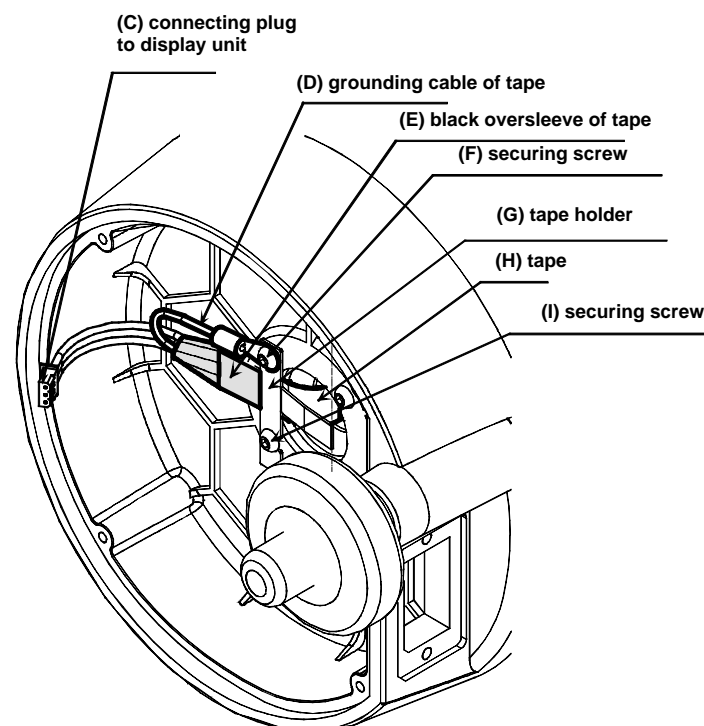
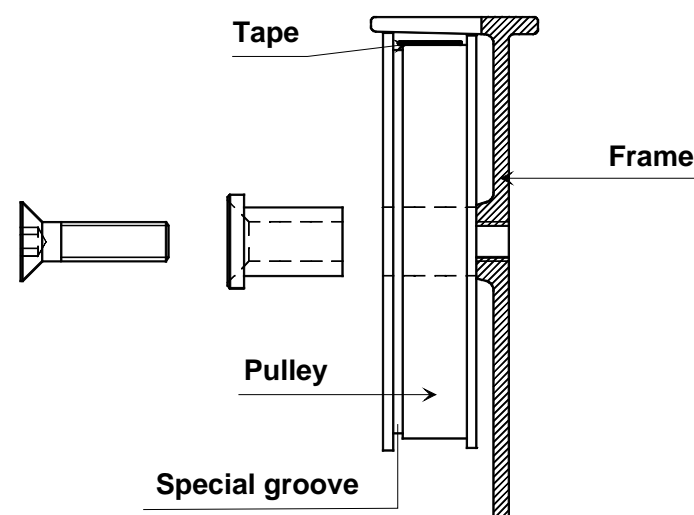

Figure 8-6
Figure 8-8
- Disconnect the connecting plug (C) as shown on Figure 8-6 and remove the display unit.
- Unscrew with the 2.5 Allen key the tape holder (G) by removing the 2 screws (F & I) and the grounding cable (D) as shown on Figure 8-6. Do not loose the 2 remaining screws that secure the reel axle.
- On the electronic box side, adjust the black oversleeve just to the edge of the tape holder (pull the tape gently from the other side) and tighten the tape end as shown on Figure 8-6.
- Tighten the 4 screws (K).
- If necessary, readjust the loop (M) and the S-shape (L) of the tape at the core of the reel axle.
- Put back and secure the pulley. Note that the pulley is not symmetrical: the special groove shall stay opposite of the frame (see Figure 8-8).
- Disconnect the tape plug, item (C) shown on Figure 8-6.